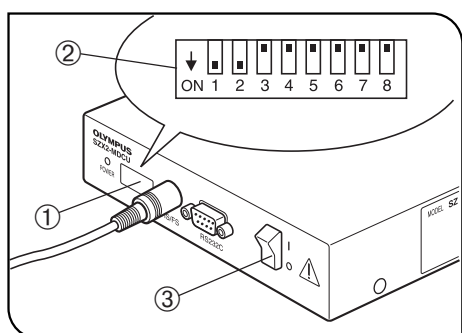

Fig. 1
- Set the DIP switch. (Fig. 1)